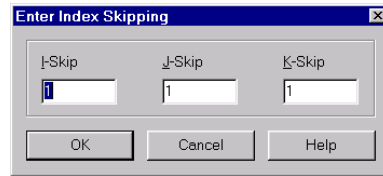

Figure 11-9. The Enter Index Skipping dialog.
5. Click on the desired option. If you click on Enter Skip, the Enter Index Skipping dialog appears, as shown in Figure 11-9 below.